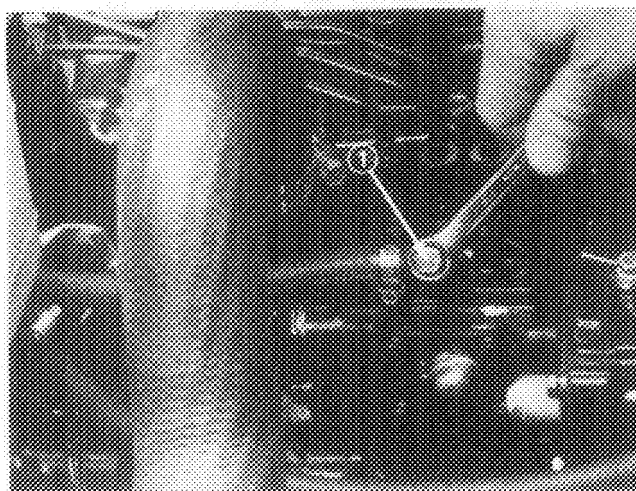

Figure 33
4. Open the air bleed screw on the fuel injection pump (Fig. 33) with a 10 mm wrench.